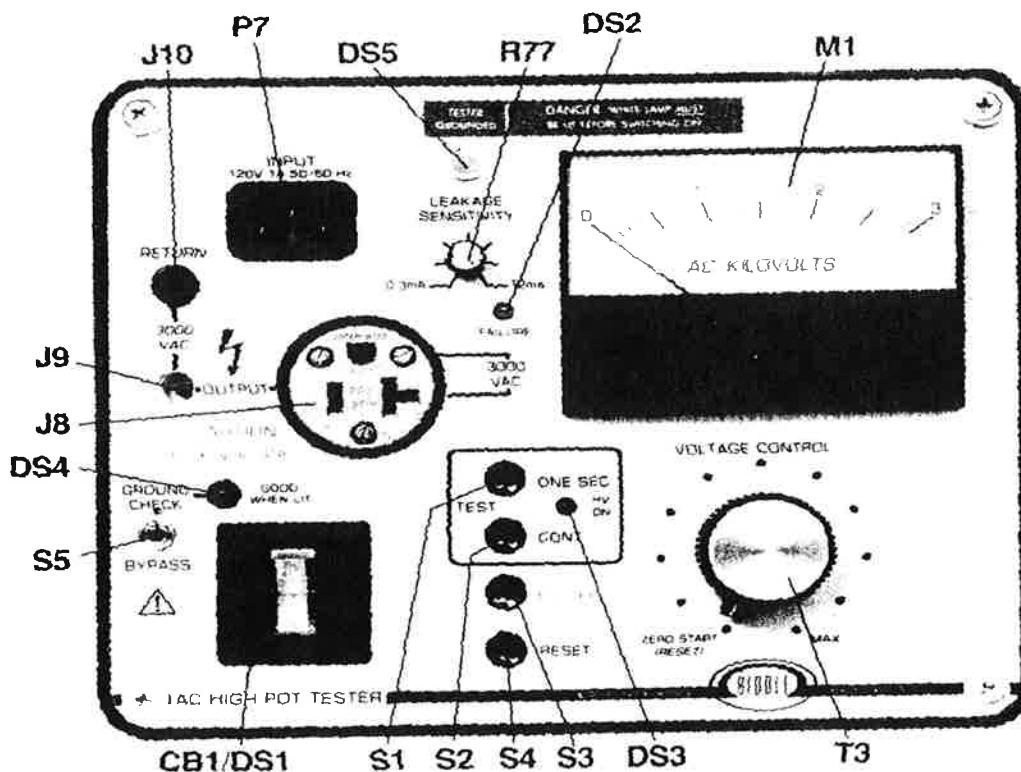

Figure 6.4.1-1 AC High Pot Tester
6.4.1 AVTM 23-1J AC High Pot Tester Setup Procedure (refer to Figure 6.4.1-1, AC High Pot Tester)